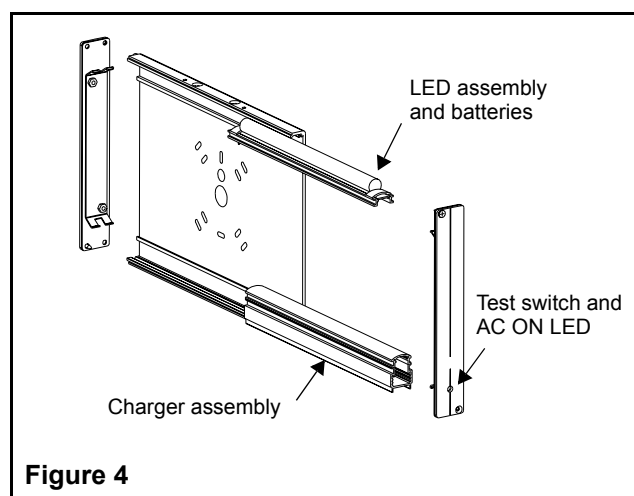

Figure 4
- Take off the end caps by removing the 2 end caps screws (only one end cap for end mounted signs). See fig. 4.
Press test switch (see fig. 4). Legend will flicker, but remain lit, AC pilot lamp will extinguish. On release, pilot lamp will illuminate, and automatic charger will restore battery to full charge.